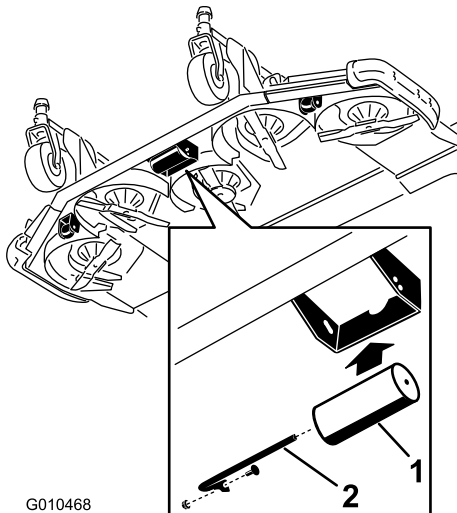

Figure 32
2. Slide the shaft out of the lower bracket holes, align the roller with the top holes, and install the shaft (Figure 32).